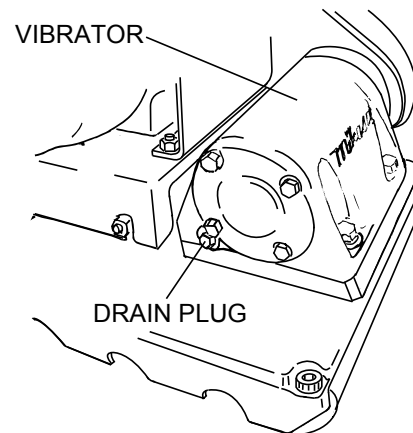

Figure 10. Vibrator Oil Check
2. Check vibrator oil level by removing the oil plug (vibrator oil gauge) as shown in Figure 10. Clean the oil gauge and rethread back in. Remove the oil gauge again and confirm oil level does not exceed the cross hash of the oil plug. **DO NOT OVERFILL!**